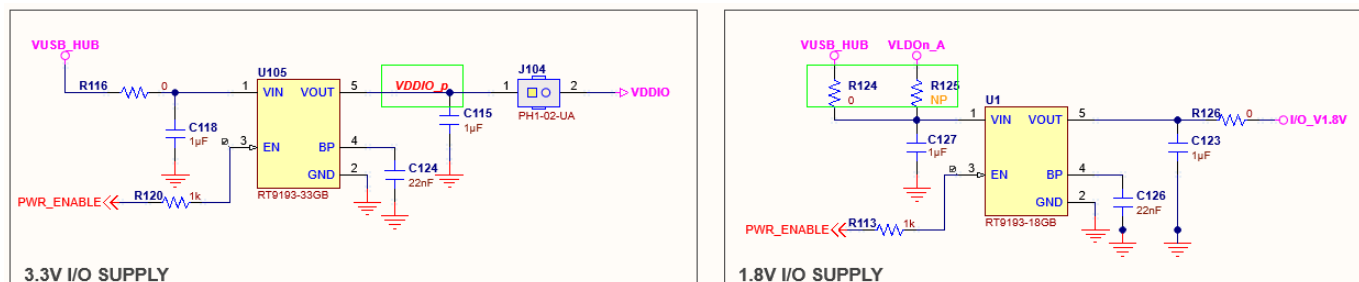

Figure 12. The LDOs for I/O_V1.8V and VDDIO
- For supplying interface section with 3.3 V, jumper must be removed from J107. A jumper must be applied on J104, see Figure 12.